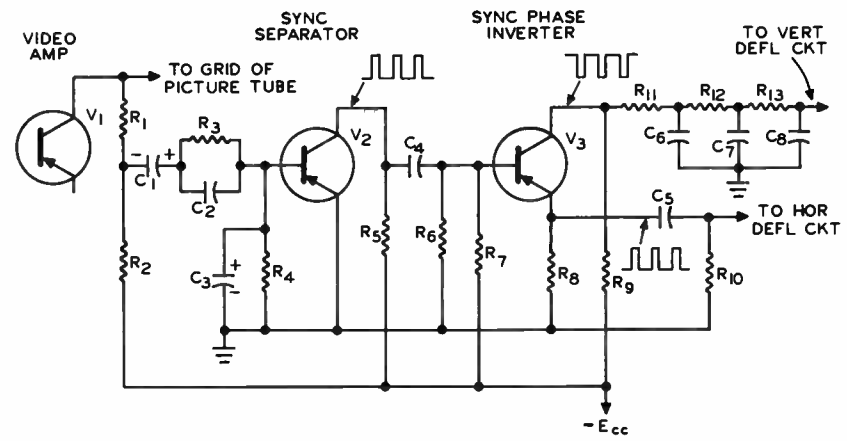

FIGURE 4
In the circuit of Figure 4, resistors R_6 and R_7 form (A) a base bias voltage divider circuit for the V_3 stage. (B) a dual time constant network. (C) a differentiating network. (D) an integrating network.